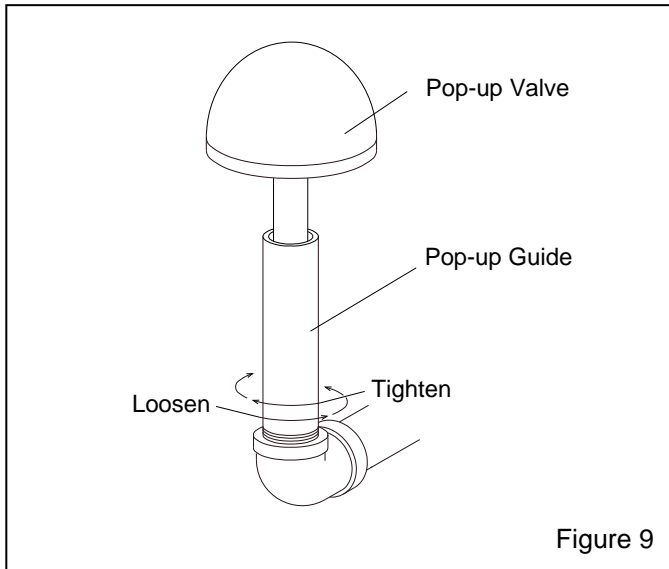

Figure 9
5.3. Replacing the Pop-Up Valve, Figure 9